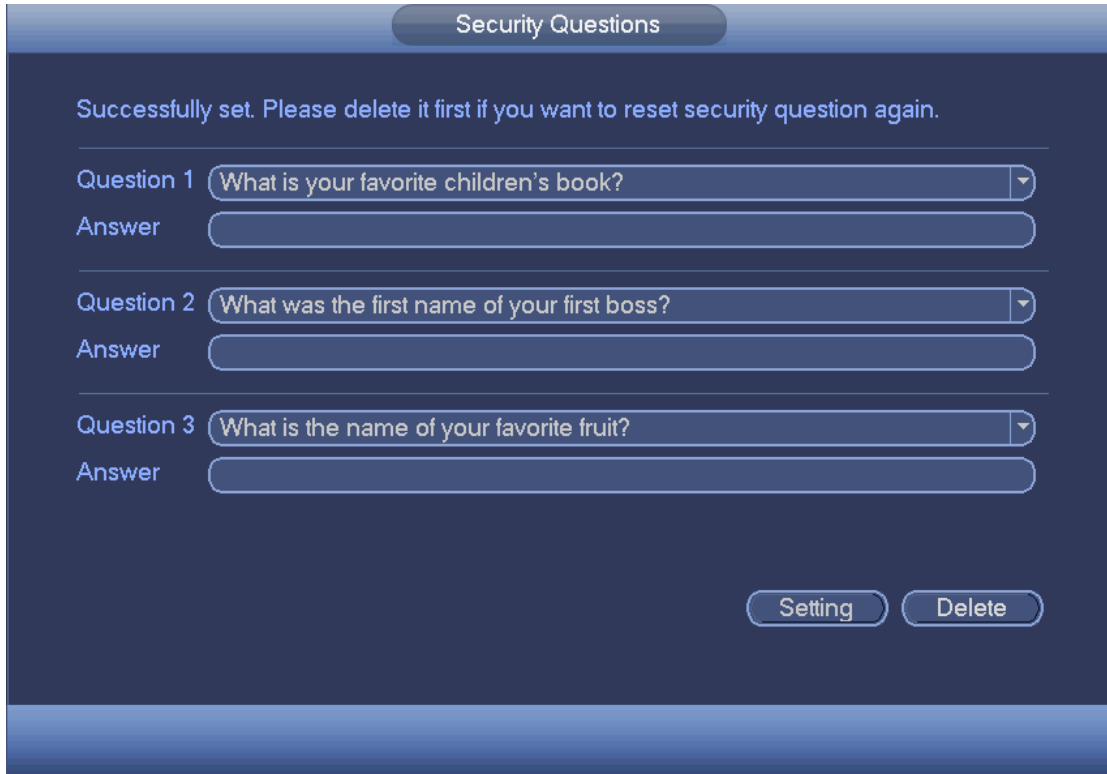

Figure 4-139
Step 1 Click Security question, enter the following interface. See Figure 4-139.